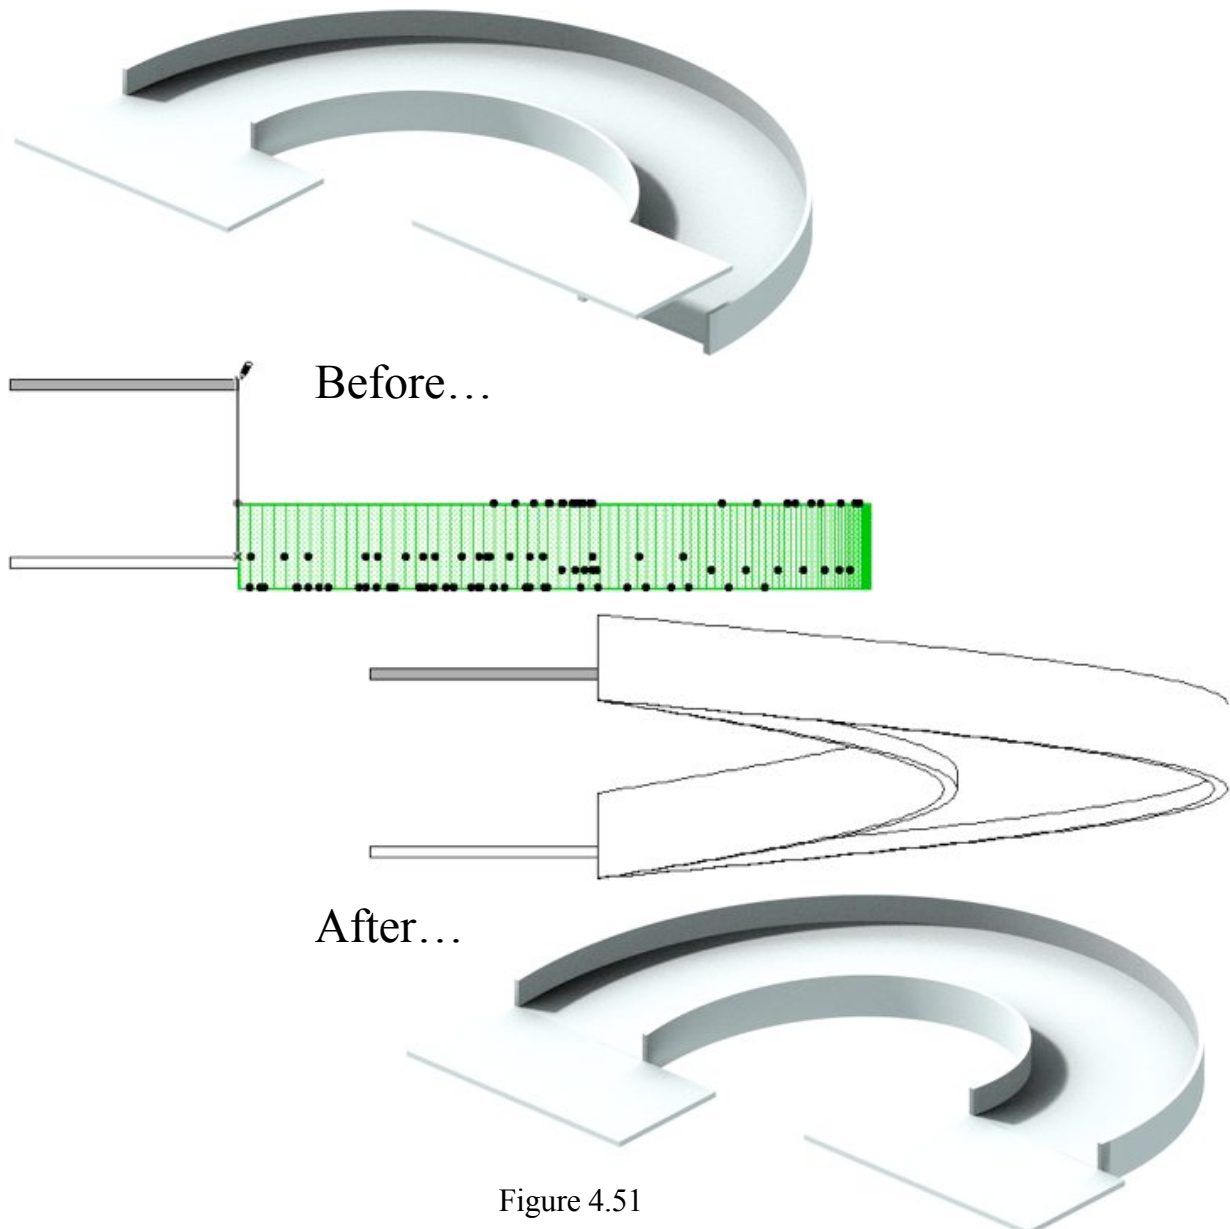

Figure 4.51
- Move the rubber-banded bending end to the required position (Fig. 4.51);